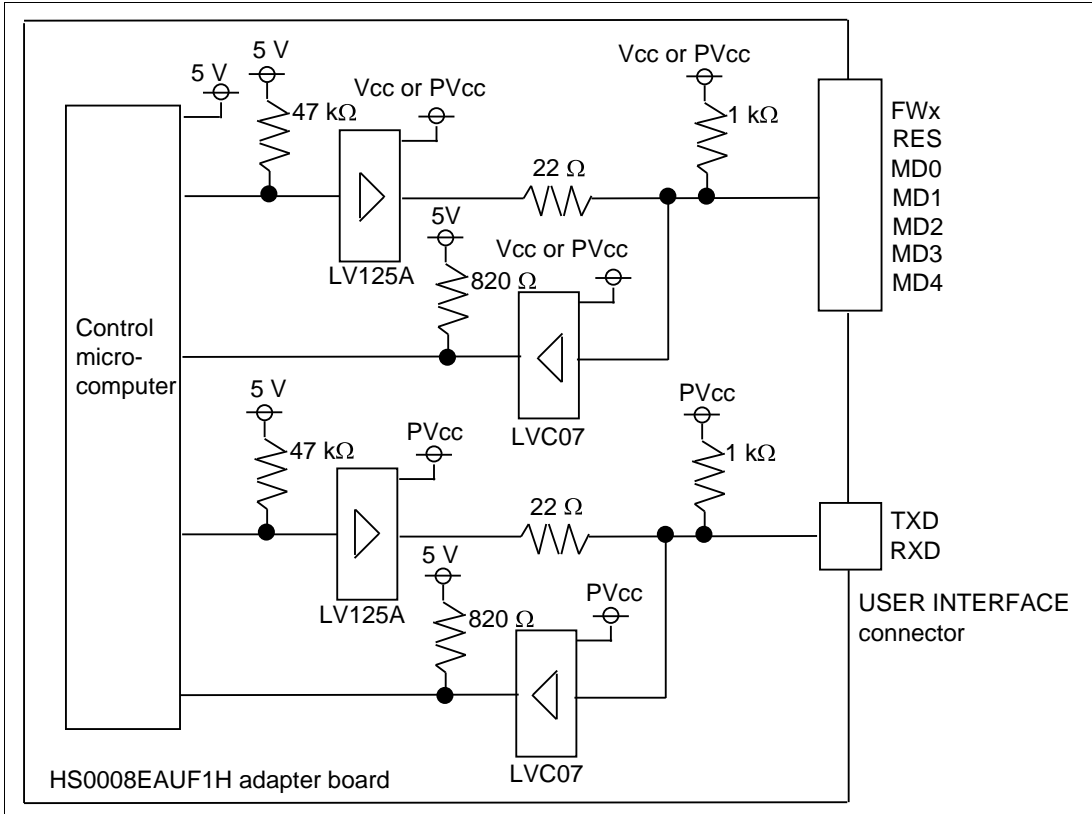

Figure 4.1 Control-Signal Circuit Example
4. When control signals FWx, RES, MD4, MD3, MD2, MD1, and MD0 are connected to the F-ZTAT microcomputer on the user system, do not connect them directly to Vcc, PVcc, or GND; pull them up or down by a resistance of 4.7 k Ω or more. For the control signals that are not used for reprogramming, do not connect any pins. Figure 4.1 shows the specifications of the user system interface of this adapter board. The initial state of each pin is input. This also applies to the unused pins that are not connected.